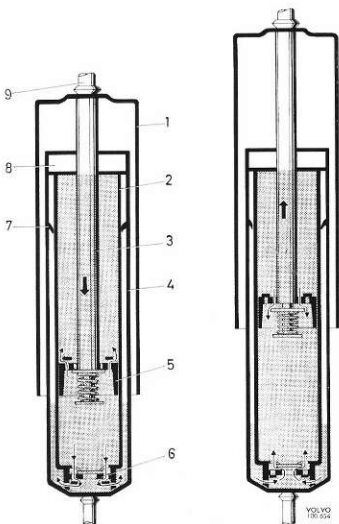

Fig. 7-6. Shock absorber, function
The design of the shock absorbers is shown in Fig. 7-6. The outer cylinder (1) serves only as a protection against dust and dirt. The other two cylinders (2 and 4) are concentrically arranged, one inside the other. The inner cylinder (2) is the actual working cylinder, the lower end of which is provided with a valve (6). Inside the inner cylinder there is a piston (5) in which holes are drilled, the passage of oil through these holes being controlled by valves. The piston is attached to a piston rod (3), the upper end of which forms an attachment to the body. At the opposite end of the shock absorber a similar screw attachment is fitted. The space between the cylinders (2 and 4) serves as a reservoir and is only partially filled with fluid. The inner cylinder (2) is completely filled with fluid on both sides of the piston (5). The cover (8) serves as a seal and guide for the piston rod (3). The baffle ring (7) acts as a baffle for the fluid.